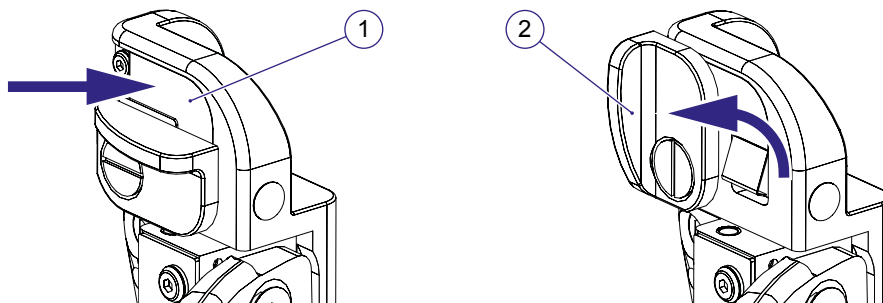

Figure 5.72 Unlocking the docking device
- 1 Push the lock plate (1) (see Figure 5.72) in and turn the locking lever (2) to the upright position.